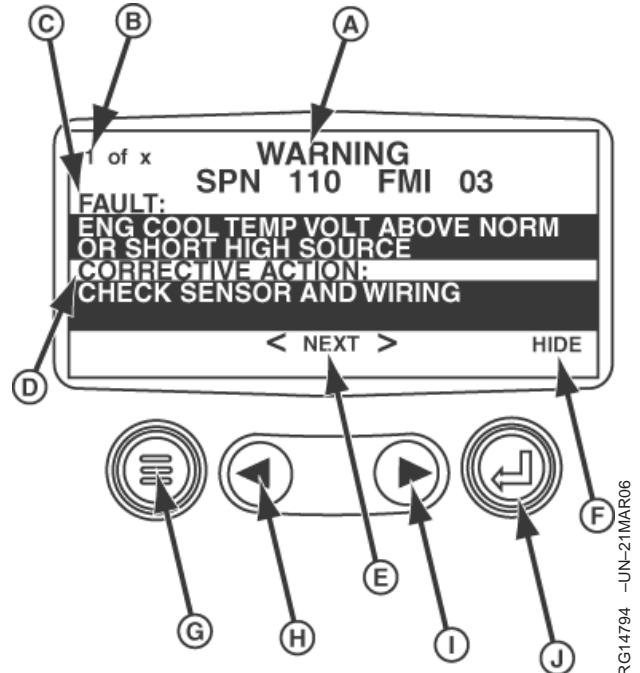

Figure 4. Active Trouble Codes Displayed
3. When the word "NEXT" (E) appears above the arrow keys (H) (I), there are more trouble codes that can be viewed by using the arrow keys. To view the next trouble code, press the right arrow key (I). To view the previous trouble code, press the left arrow key (H).
As the trouble code being viewed is changed, the "1 of x" (fig. 4 (B)) shows the number of the trouble code being displayed, out of a total number of active trouble codes. (For example, "3 of 5" means viewing the third trouble code of a total number of five, active trouble codes.) As the arrow keys are used to display next, or previous, trouble codes, the left-hand number changes to the number of the trouble code to which the scroll was advanced or returned.
4. To acknowledge and hide the code and return to the single or four -parameter display, press the "Enter" Key (fig. 4 (J)).